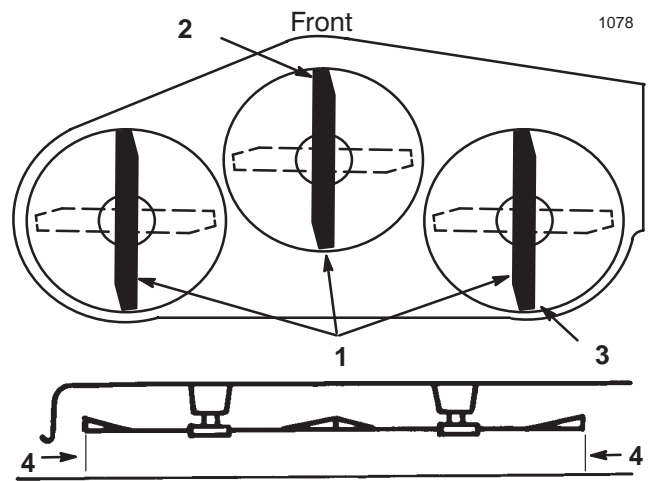

Figure 42
5. Set the height-of-cut at 3 in. (76 mm) and carefully rotate the blades so they are facing front to rear (Fig. 42).
6. Measure between the tip of the front blade (Fig. 42) and the tip of the rear blade to the flat surface. If the front blade tip is not 1/16–5/16 in. (1.6–7.9 mm) lower than the rear blade tip, adjust the front trunnion rods.
9. After adjusting both trunnion rod yokes evenly, secure the yokes with the hairpin coppers. Check the front-to-rear level again. Continue adjusting the yokes until the front blade tip is 1/16–5/16 in. (1.6–7.9 mm) lower than the rear blade tip (Fig. 42).